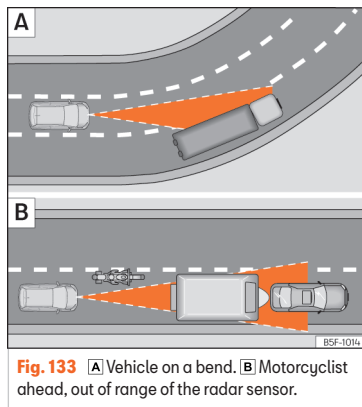

Fig. 133 [A] Vehicle on a bend. [B] Motorcyclist ahead, out of range of the radar sensor.
The ACC may not detect the vehicle in front on a curve, or may regulate the distance from vehicles in other lanes »» Fig. 133 **A**.
- Vehicles that are not aligned while driving or that are outside the sensor's detection area, such as motorcycles »» Fig. 133 **B**.